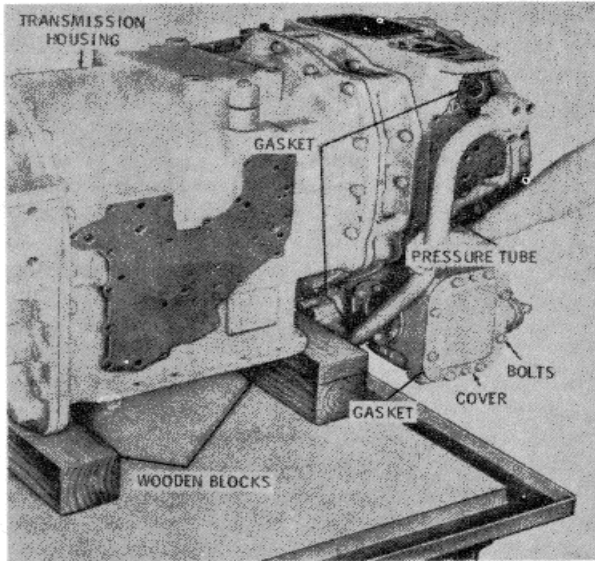

Figure 15-43. Removing Input Oil Pressure Tube.
14. Lower the transmission (Figure 15-43) onto wood blocks.